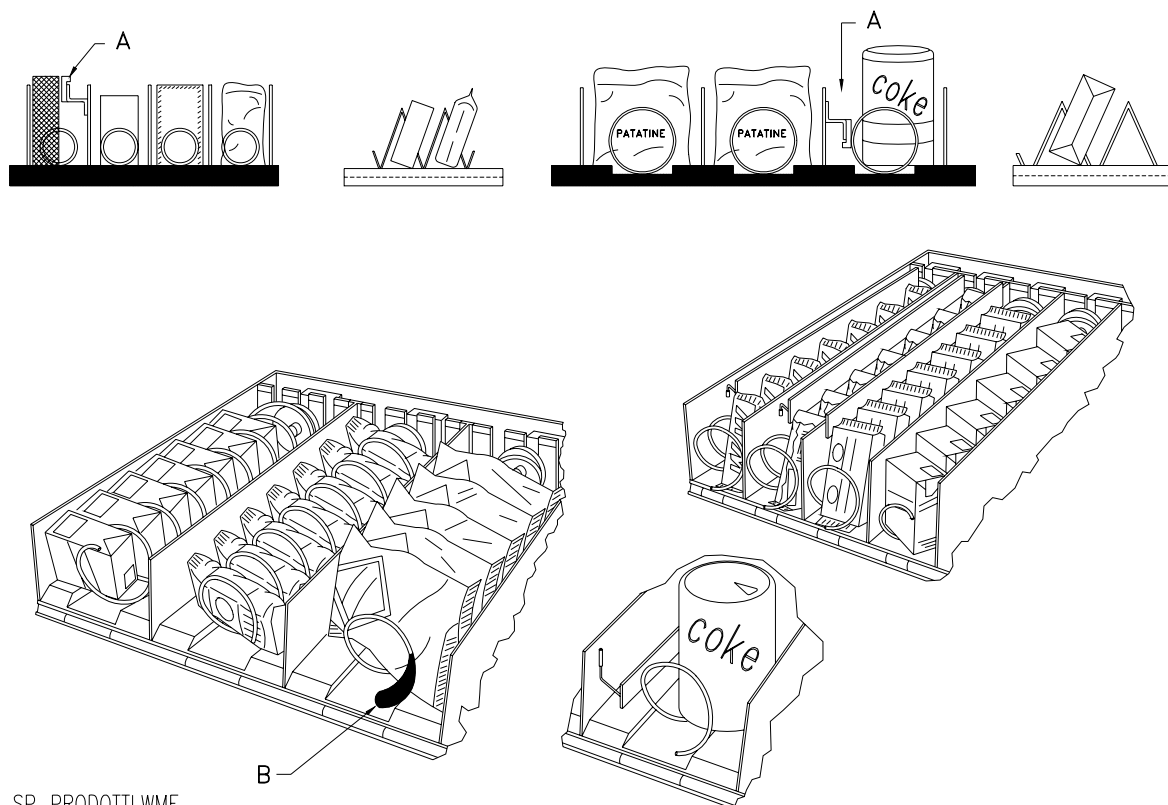

FIG. 4
7.2 CHARGEMENT DES PRODUITS (FIG. 4)
7.3 ENTRETOISES POUR PRODUITS DANS LES TIROIRS (FIG. 4)
7.4 EJECTEUR POUR PRODUITS (FIG. 4)